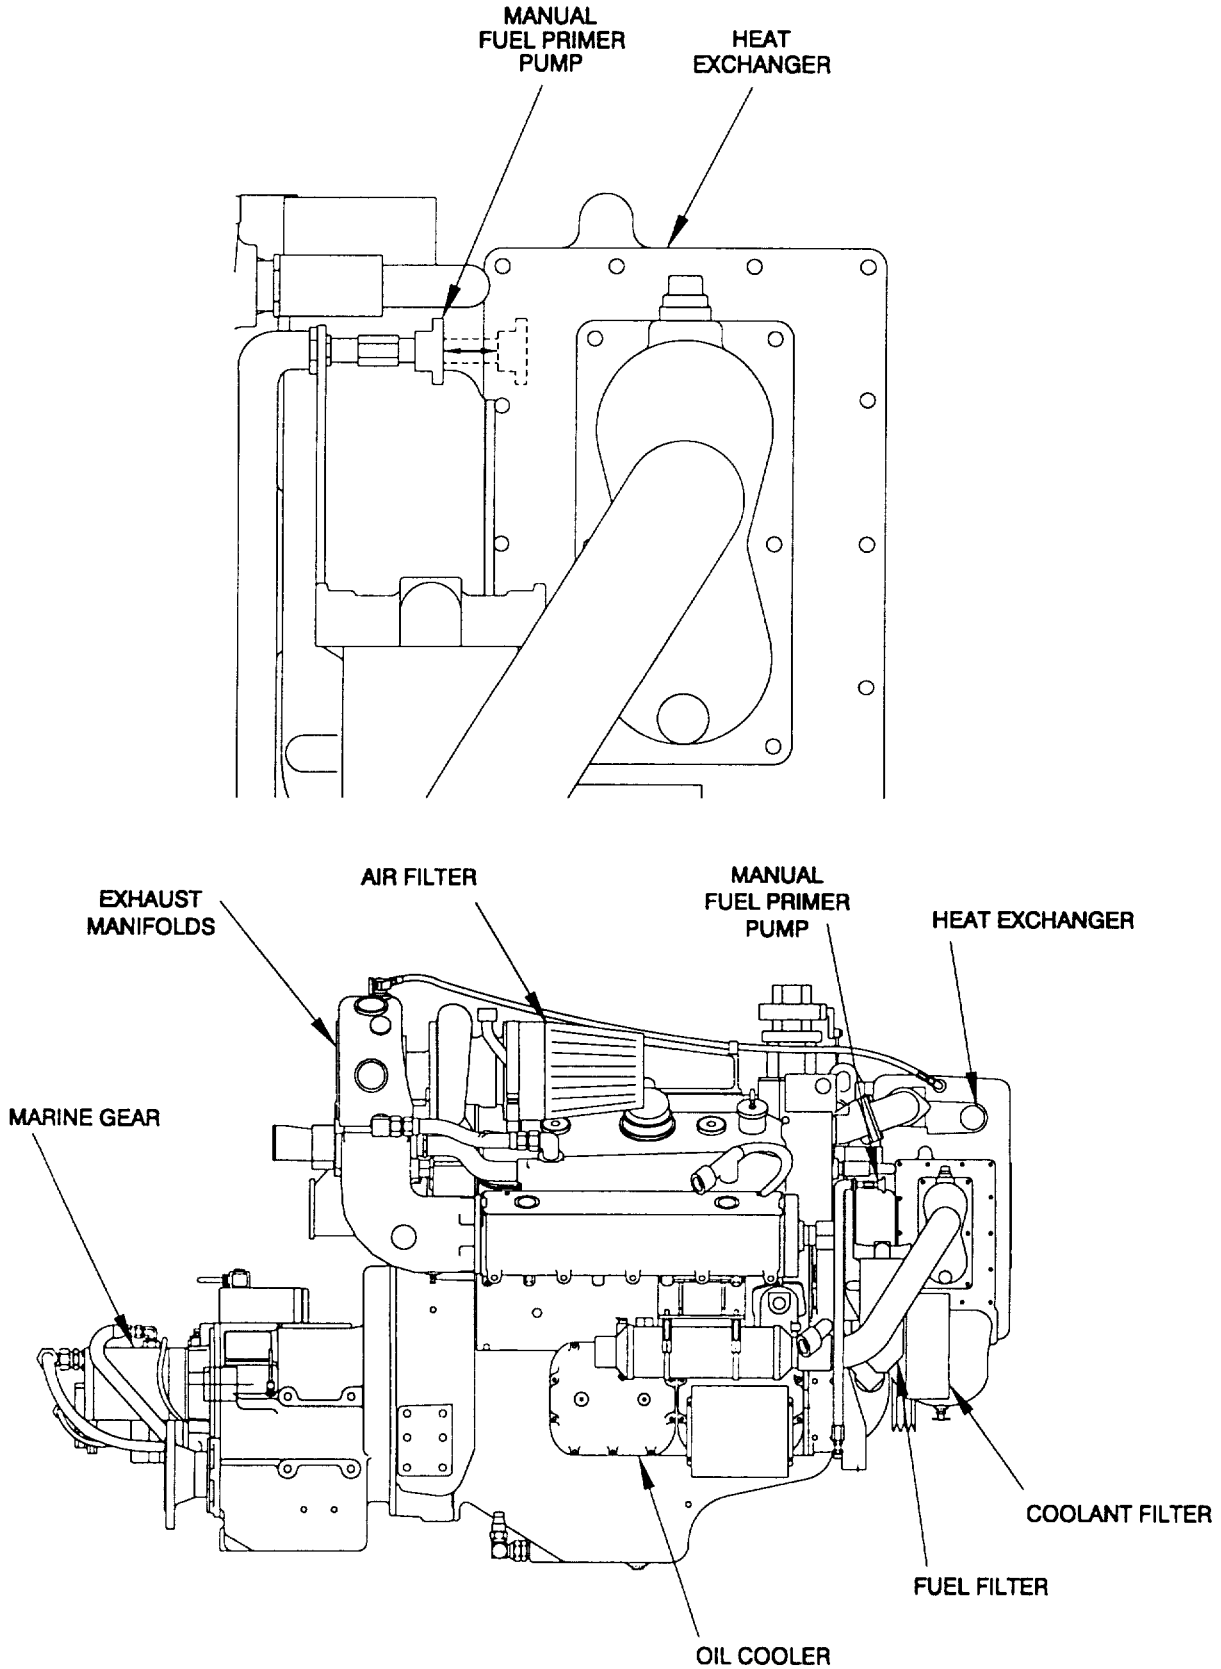

Figure 2-52. Fuel System Priming Pump.
- 3) The fuel system must be primed if air has entered the fuel system. Priming is done by a manual priming pump (Figure 2-52) to the inlet of the secondary fuel filter. Priming is not normally necessary if the filter elements are filled with fuel when installed and the manifolds in the head are not drained of fuel.